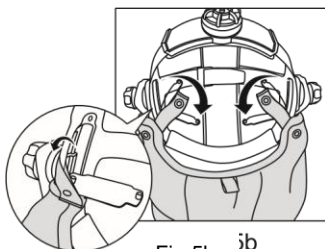

Fig.5b
Step 2: Unfasten the snap buttons located on the inner side of the headgear. Thread the elastic strap through the buckle and connect the buttons on the strap. (See fig.5b).